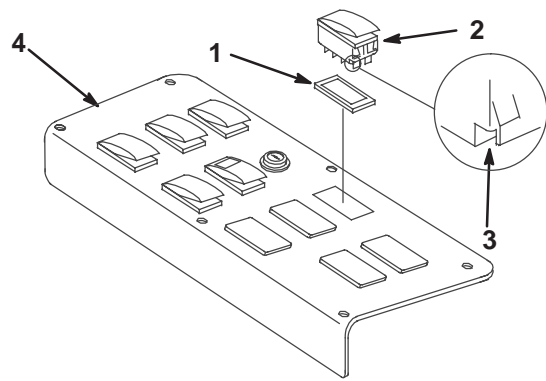
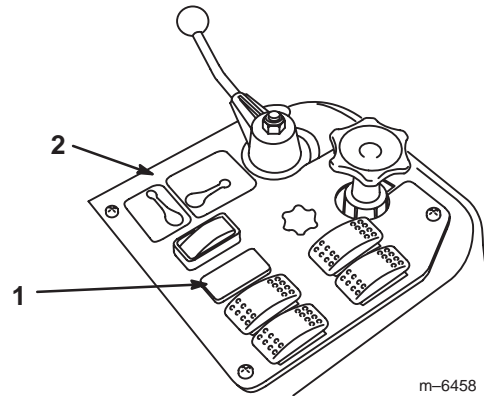

Figure 9
Figure 10
1. Remove the spray control panel to expose the bottom side (Fig. 9 for the 1250 and Fig. 10 for the 1200).
2. Remove the sonic boom plug from the spray control panel on the vehicle and install the rocker switch provided in its place (Fig. 9 for the 1250 and Fig. 10 for the 1200).
Note: Ensure that the orientation of the switch matches what is shown in Figure 9, with the notch pointing toward the rear of the vehicle.